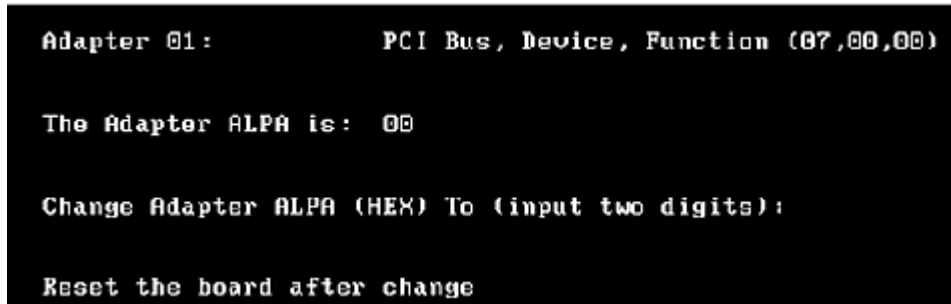

Figure 10: Change Default ALPA screen
2. Select **<2>**, Change Default ALPA of this adapter. Figure 10 is displayed.